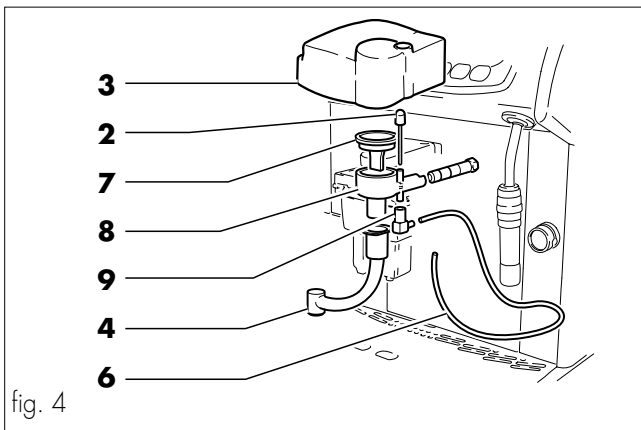

fig. 4
To clean the cappuccino dispensing unit components individually (fig. 4) the following must be removed:
- the upper casing (fig. 4, 3), removing it upwards;
- the froth adjusting pin (fig. 4, 2);
- the air diffuser (fig. 4, 7) from the cappuccino device casing, in an upwards direction;
- the cappuccino device casing (fig. 4, 8) pulling it towards you;
- the connection fitting (fig.4, 9) from the milk supply tube to the cappuccino device casing;
- the adjustable dispensing spout (fig.4,4);
- the milk supply tube (fig.4, 6).